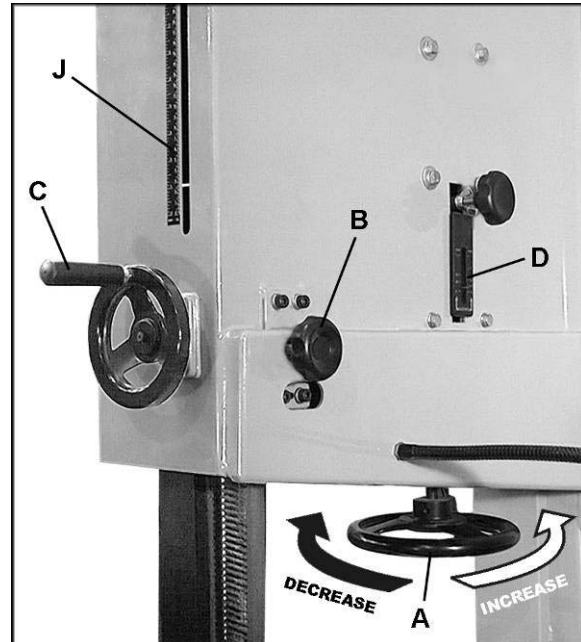

Figure 14
2. Decrease blade tension by rotating blade tension handwheel (A, Figure 14) according to the arrow direction in Figure 14, until the handwheel stops.
5. Lower the upper blade guide assembly by loosening the knob (B, Figure 14) and rotating the handwheel (C, Figure 14).
3. Rotate blade tension handwheel to set the blade tension, according to the arrow directions in Figure 14.
4. The gauge (D, Figure 14) indicates the approximate tension according to the width of the blade in inches. Initially, set the blade tension to correspond to the width of your blade. As you become familiar with the saw, you may find it necessary to change the blade tension from the initial setting.
TIP: When the band saw is not being used, slightly release the tension on the blade – this will prolong the blade's life. Make a note of the specific tension setting for that particular blade, as shown on the gauge (D, Figure 14). The tension can then be reset quickly when band saw operations are resumed.
2. Loosen lock knob (see B, Figure 14) and raise or lower upper blade guide assembly by turning the handwheel (C, Figure 14).
3. Position the blade guide assembly about 3/16" above the material to be cut. The scale (J, Figure 14) shows the distance from bottom of upper blade guides to the table surface.
4. Tighten lock knob (B, Figure 14).